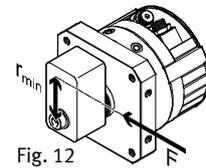

Fig. 12
- Make sure that the following points are observed (Fig. 12):